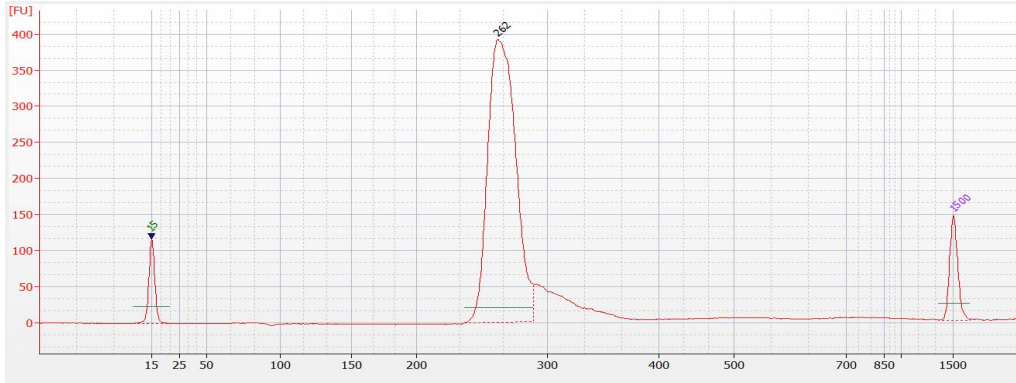

Figure 2. Example of Library Size Distribution on Agilent 2100 Bioanalyzer
the main peak of the targeted DNA fragment size should be at 230~370 bp, without obvious non-specific peaks of small and big fragments, as shown in Figure 2.
- The library distribution shown in the Figure 2 above was assessed using Agilent 2100 Bioanalyzer system and Agilent DNA 1000 Reagents. The peak at 15 bp stands for the lower marker, and the peak at 1500 bp stands for the upper marker.